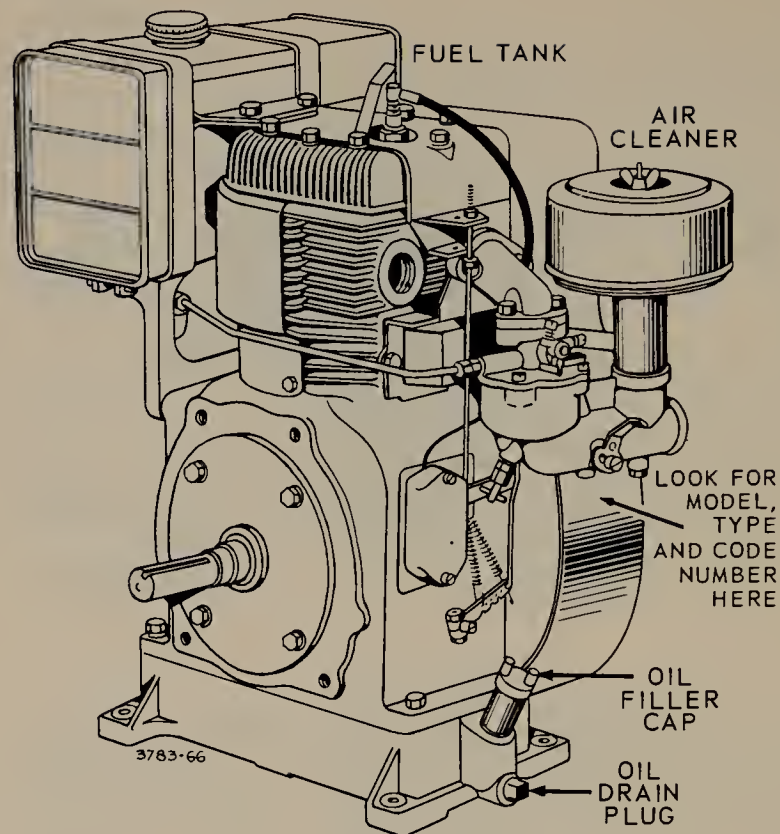

FIGURE 11.8 Small engine with oil-bath type air cleaner. (Briggs and Stratton Corporation.)
11.8 Oil-bath Air Cleaner. Before removing the cleaner, disconnect the spark plug wire to make sure the engine will not start. The cleaner will be secured by either a bail wire, or by screw threads on the filter element itself. An oil-bath air cleaner held in place on the carburetor by a wing nut is shown in Fig. 11.8. The air cleaner can be removed by taking off the bail wire or wing nut or unscrewing the